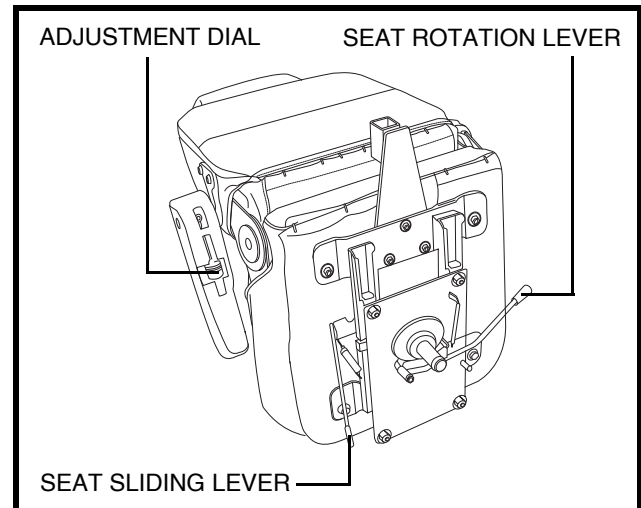

Figure 17. Seat Position Adjustments
1. Push forward on the seat rotation lever to disengage the seat. **See figure 17.**
1. Move the seat sliding lever located at the lower left side of the seat outward. **See figure 17.**
There is an armrest adjustment dial on the underside of each armrest. **See figure 17.** Turn the armrest adjustment dial to the left to lower the armrest angle or to the right to raise the armrest angle.
2. Place the seat upside down so that you can see the bottom of the seat base. **See figure 17.**